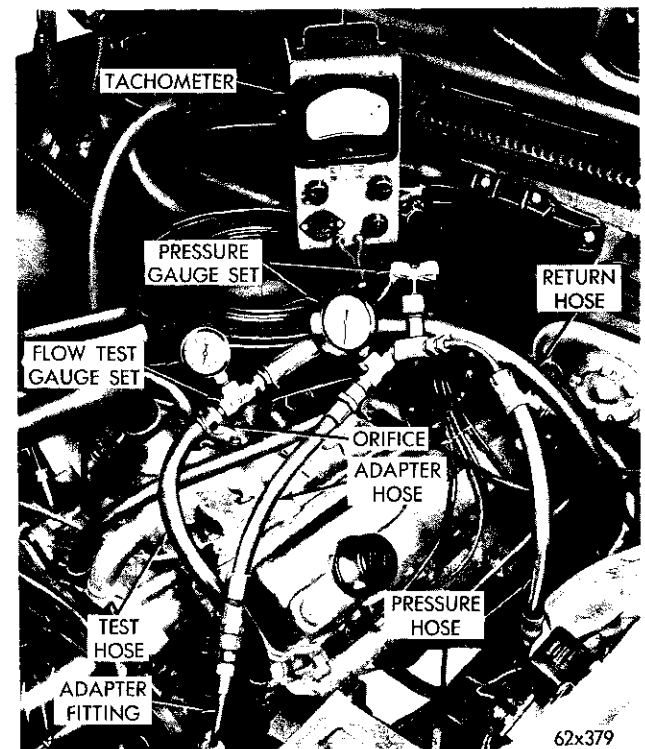

Fig. 3—Flow Test Connections
(1) Inspect the pump belt tension. See "Cooling System" Group 7.
(2) Disconnect the pump pressure hose at the power steering pump and connect the test hose adapter tube and pressure gauge Tool C-3309B with the proper adapters between the power steering pump and the hose disconnected from the pump (Fig. 3).
(4) Install the flow checking gauge set Tool C-3885 with the special hose between the power steering pump and the return hose disconnected from the pump (Fig. 3).
NOTE: The fitting that has the restriction, and the arrow on the "tee" connector (Fig. 3) must be towards the power steering pump. Use orifice SP-3825.